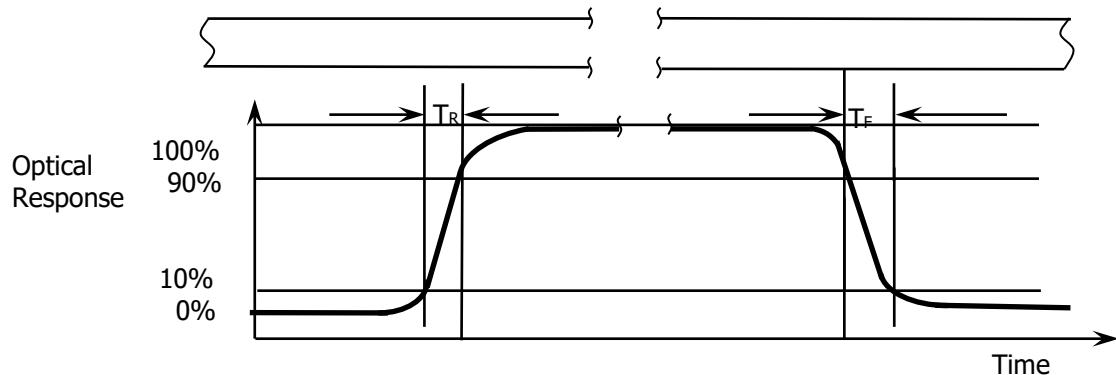

**Figure 1. Measurement Set Up**
1. Viewing angle is the angle at which the contrast ratio is greater than 10. The viewing angles are determined for the horizontal or 3, 9 o'clock direction and the vertical or 6, 12 o'clock direction with respect to the optical axis which is normal to the LCD surface (see FIGURE 1).
2. Contrast measurements shall be made at viewing angle of  $\Theta = 0$  and at the center of the LCD surface. Luminance shall be measured with all pixels in the view field set first to white, then to the dark (black) state . (see FIGURE 1) Luminance Contrast Ratio (CR) is defined mathematically.